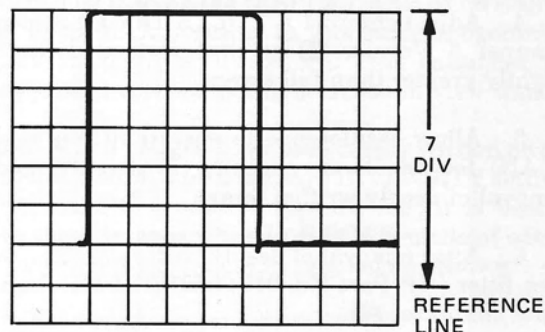

Figure 13. Absolute Voltage Measurement
6. Measure the distance in divisions between the reference line and the level on the waveform you want to measure. An example is shown in figure 13.
Example: Assume the vertical distance is 7 div, the waveform is above the reference line, and the VOLTS/DIV setting is 0.5 V/div (see figure 13).